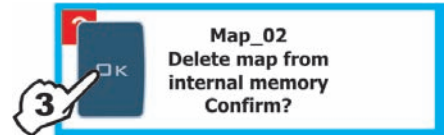

Fig. 155
- 3 The message shown in Fig. 155 is displayed: confirm deletion by pressing **OK**.